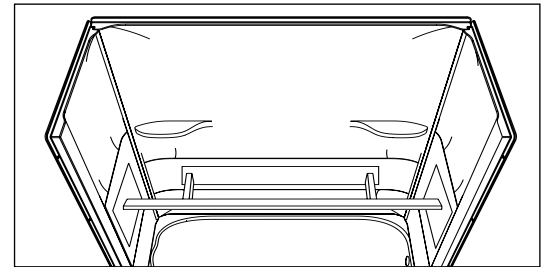

FIGURE 10. Apply pressure to all panels by cross bracing
- Panels must be held tight to studs during drying process. Apply pressure to panels in grab bar surface while adhesive dries with cross bracing. (Fig. 10)